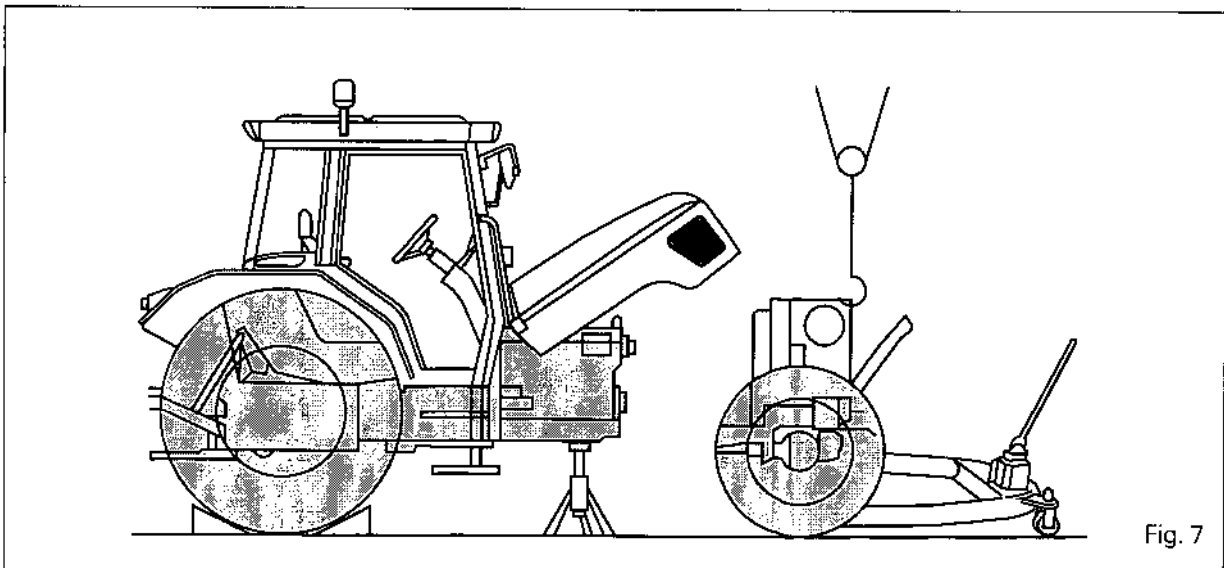

Fig. 7
- The tractor may be equipped with a belly weight (110 Kg) housed in the frame. In this case and to avoid a possible tipping over of the assembly to be uncoupled, sling the front of the frame to restore the balance (Fig. 7).
38. Assemble the frame with the engine, following the same safety procedures as those applied during uncoupling (Fig. 7).